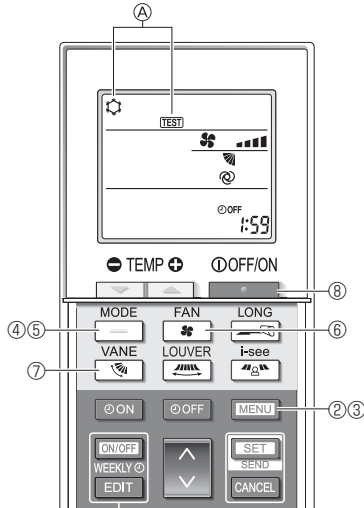

Fig. 7-9
- ③ Press the **MENU** button.
- Ⓐ **[TEST]** and the current operation mode are displayed. (Fig. 7-9)
- ④ Press the **—** button to activate cool mode, then check whether cool air is blown out from the unit.
- ⑤ Press the **—** button to activate heat mode, then check whether warm air is blown out from the unit.
- ⑥ Press the **—** button and check whether the fan speed changes.
- ⑦ Press the **—** button and check whether the auto vane operates properly.
- ⑧ Press the **—** button to stop the test run.